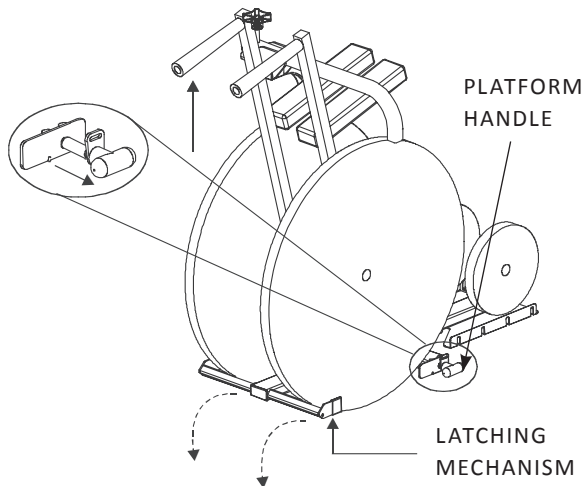

Figure 4-13
2. While holding the wheelchair up by the wheelchair handles, pull the platform handle out. Gravity will tilt the platform to the ground. *NOTE: Should the platform handle stick, lift up on the wheelchair slightly to release pressure off of the latching mechanism. See Figure 4-13.*